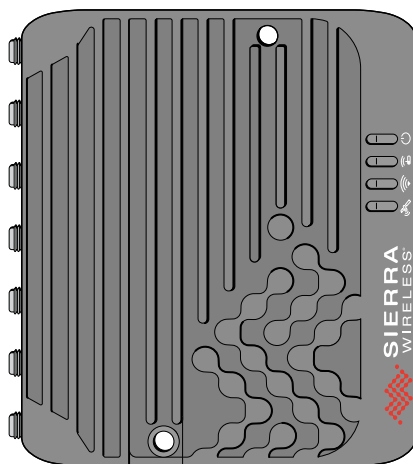

Figure 2-3: Recommended Orientation for Inclined/Vertical Mounting
*Note: When mounting the XR60 router in a location that could be exposed to rain (e.g., in a vehicle door panel, which would expose the router when the door is opened), mount the router with the SIM card cover facing down, as shown in Figure 2-3.*